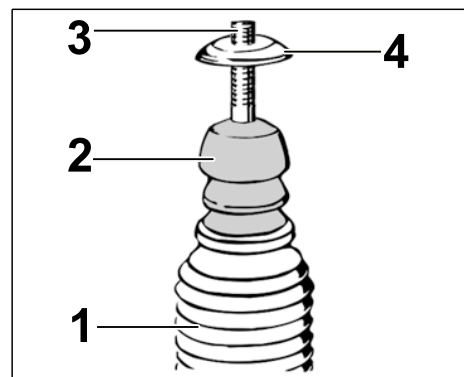

Figure 2
2.1.1 Attach protective bellows to additional spring and fit on piston rod (⇒ Figure 2).